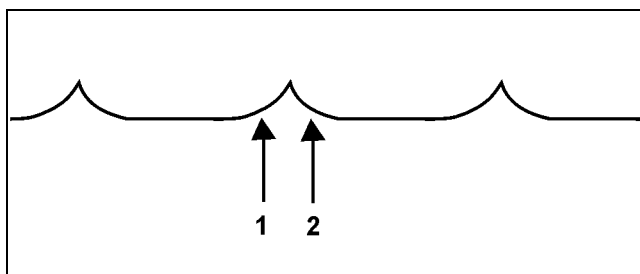

Fig. 1
- Fig. 1: optimales Schnittbild!
- Fig. 1: Correct setting of disc rows!